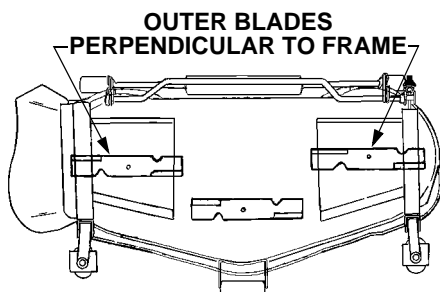

Figure 18
3. Carefully rotate the outer cutting blades so that they are positioned perpendicular to the tractor frame (See Figure 18).